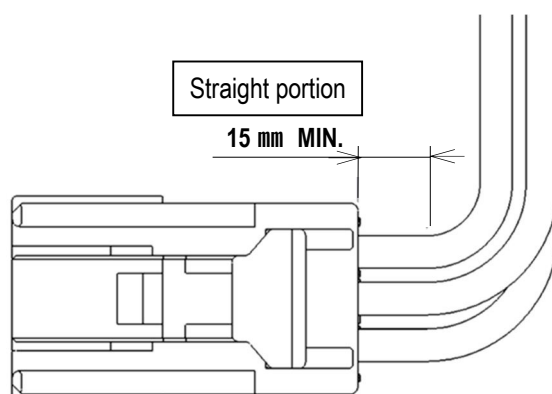

Fig 54. Arrangement of wires
- ① When arranging the wires horizontally, to avoid excessive stress to the sidewalls and female terminals, and the female terminal leaning in the core hole, please keep the wires straight (at least 15mm) from connector as shown in Fig.54
- ② Once straight portion is secured, arrange the wires with adequately large R.